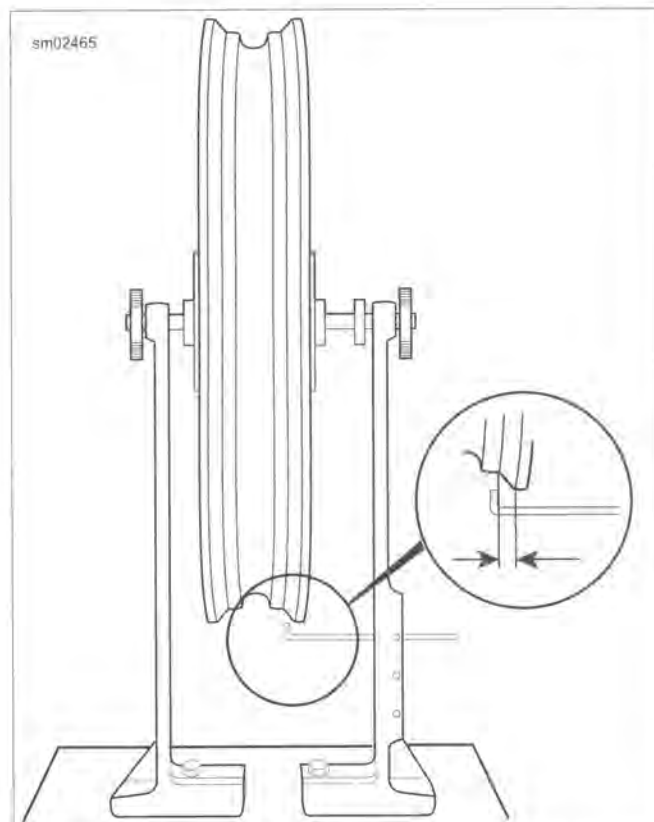

Figure 2-25. Checking Lateral Runout
1. See Figure 2-25. Mount wheel in WHEEL TRUING AND BALANCING STAND (Part No. HD-99500-80).